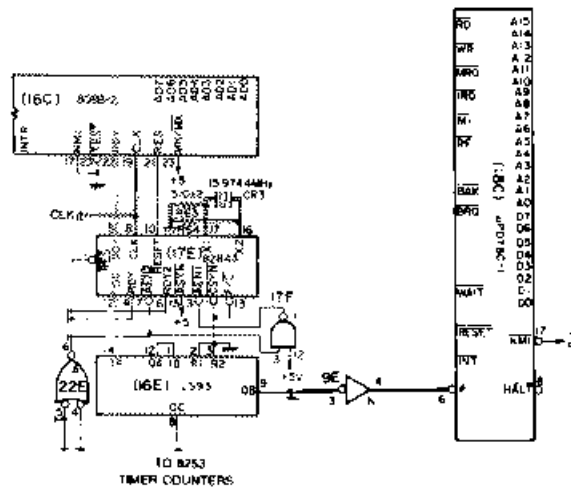

FIGURE 2-19. CPU CLOCK GENERATOR CIRCUIT
2.3.1.4 System Clock and Timing Generator Circuits (Figures 2-19 through 2-22)